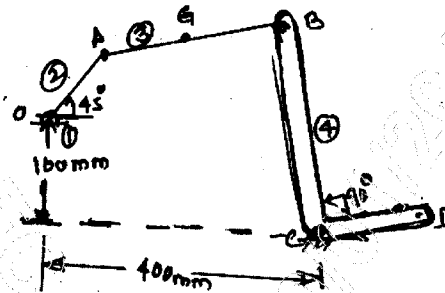

Fig.Q3(b)
- b. The mechanism shown in Fig.Q3(b) has following dimensions  $OA = 100\text{mm}$ ,  $AB = 280\text{mm}$ ,  $BC = 240\text{mm}$  and  $CD = 120\text{mm}$ . The centre of gravity of link AB is located at a distance of  $120\text{mm}$  from A. Determine the velocity of G, D and angular velocity of link AB and the bell crank lever BCD. The crank OA rotates uniformly at  $30\text{ rad/sec}$ . Use instantaneous centre method. (12 Marks)